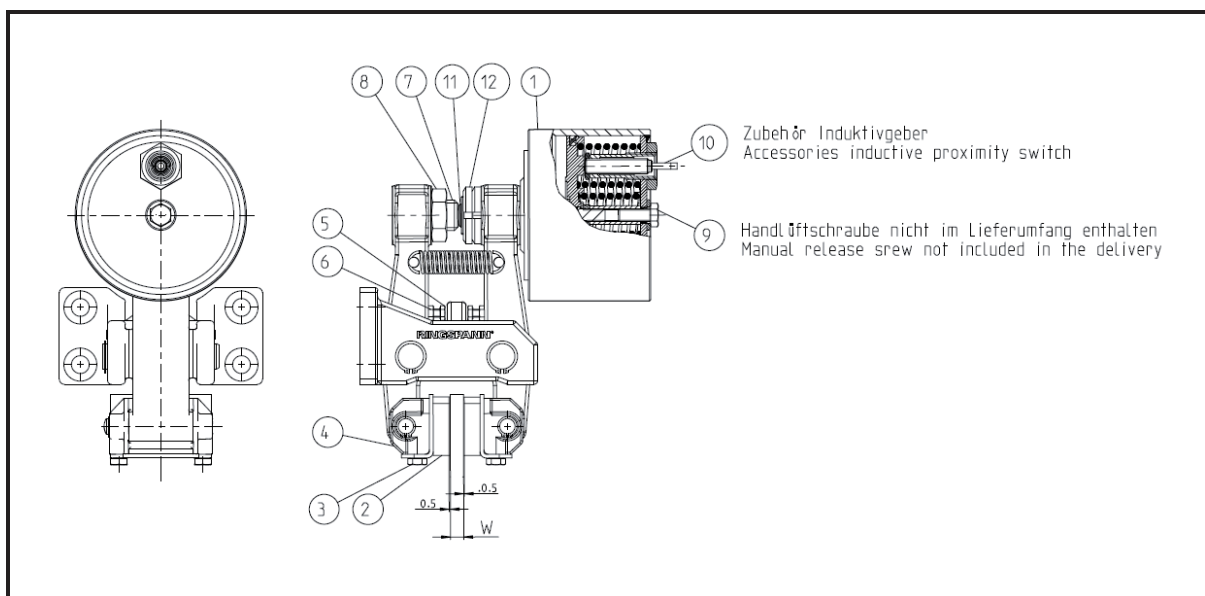

Fig. 2.1
The brake pad distance is set after the brake calliper has been assembled and after pad wear through adjusting/readjusting, see Fig. 2.1.
The setting/adjusting process of the FPM version manually brake has to be carried out with the set screw (item 7) and the two adjusting screws (item 5), shown in Fig. 2.1.
The setting/adjusting process of the FPA version automatic brake has to be carried out only by using the two adjusting screw (item 5), shown in Fig. 2.1.